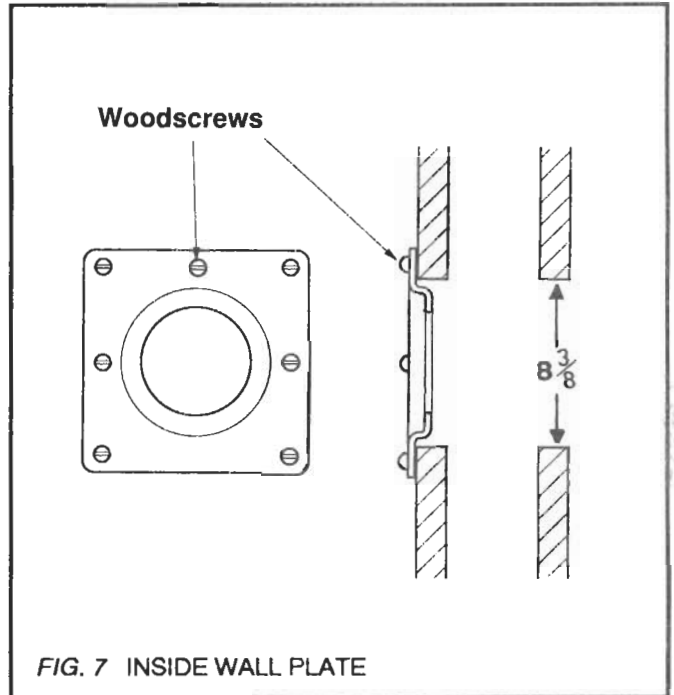

FIG. 7 INSIDE WALL PLATE
6.5. Install inside wall plate (see figure 7).